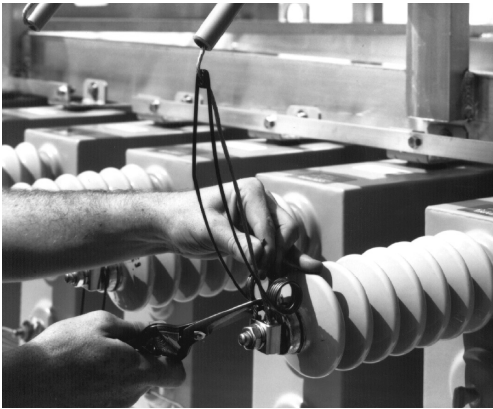

Figure 8.
- E. Trim the excess fuse link lead wire (Figure 8). Approximately 3/8 inch (1 centimeter) of lead wire should extend beyond the clamp assembly.